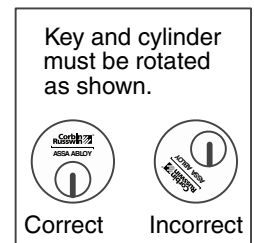

Figure 15
- Cylinder must be oriented correctly. (Figure 15)